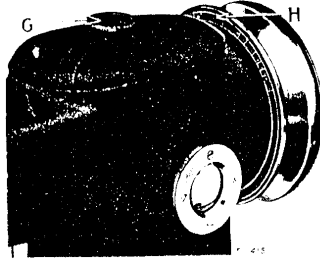

Fig. 18. Stitch Regulator
To change the length of stitch, press the plunger (G, Fig. 18) and turn the balance wheel slowly until the plunger drops into a notch in the feed eccentric. Then turn the wheel forward or backward to increase or decrease the length of stitch, which is indicated by the letters on the indicator plate at H. The letter "A" indicates the longest stitch, and the letter "L" the shortest. When the desired setting is obtained, release the plunger. NEVER PRESS THE PLUNGER (G) WHILE THE MACHINE IS RUNNING.
The stitch regulator plunger (G, Fig. 18) can be removed to prevent unauthorized persons from changing the stitch length. Take out the small screw near the tip of the plunger, which will allow the plunger to be withdrawn when the stitch length has been adjusted. The hole in the top cover should then be filled by inserting a screw 140317X (not regular equipment).